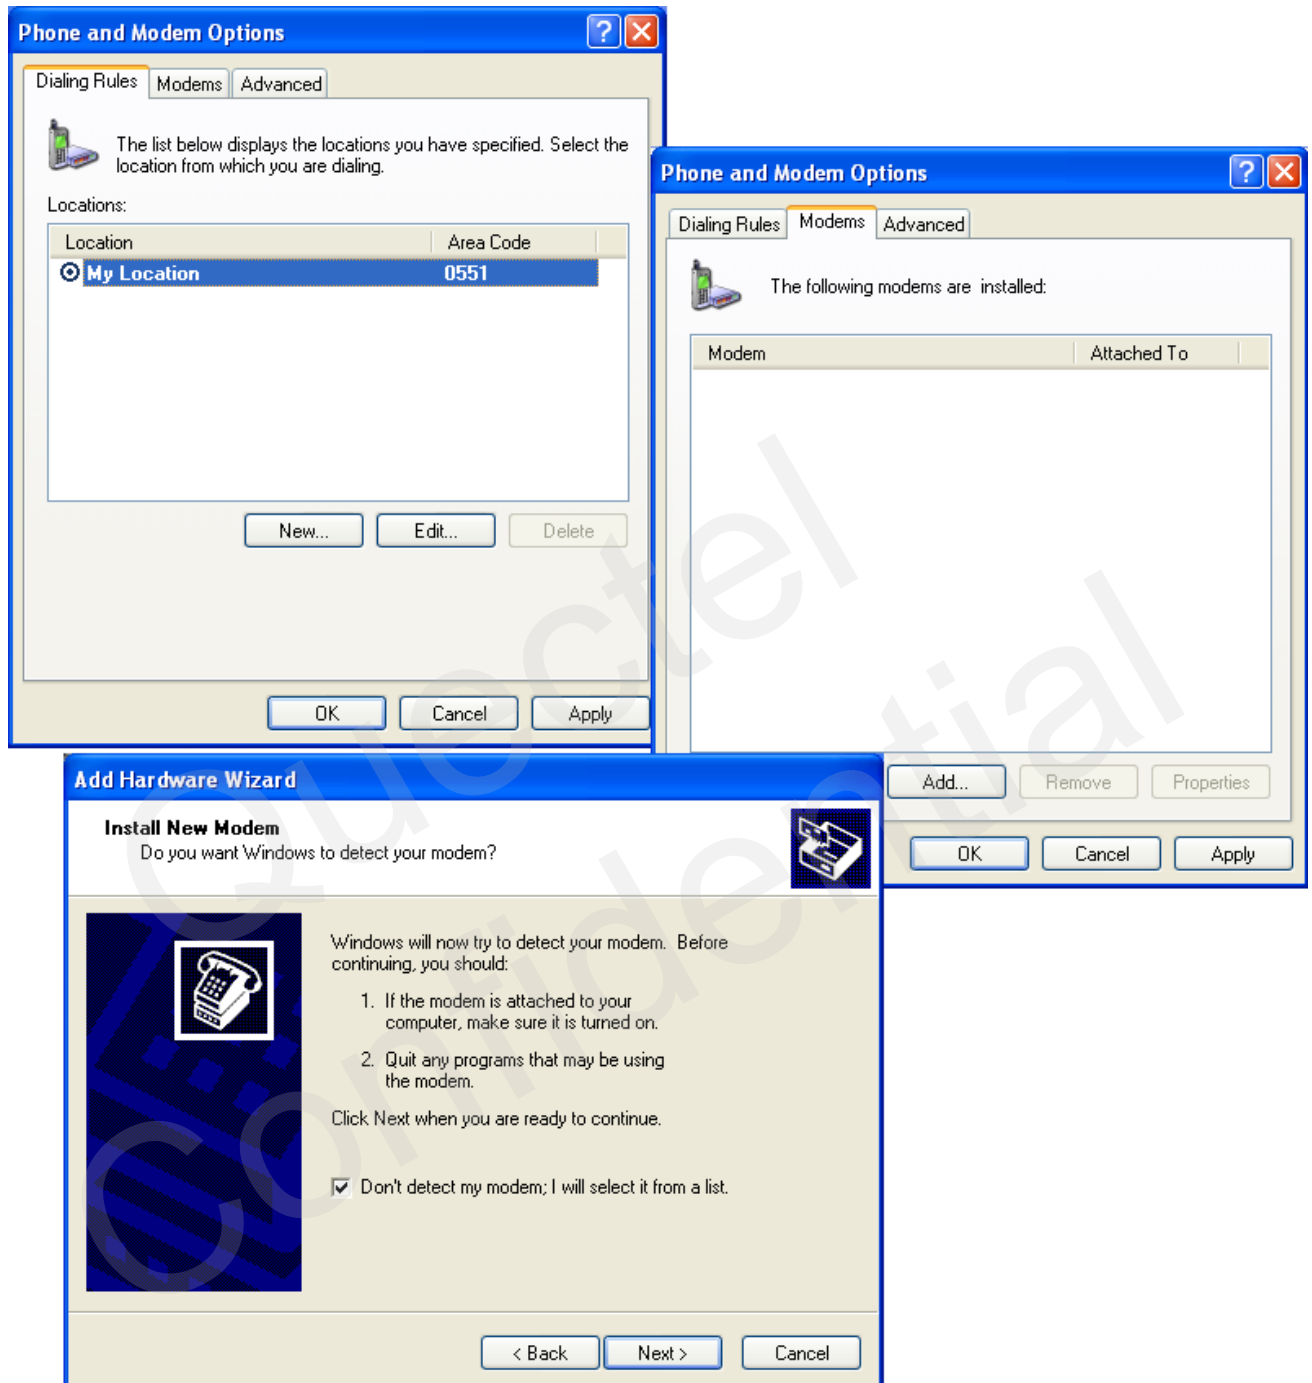

Figure 5: Add a New Modem
2. Double click **"Phone and Modem Options"**, and select **"Modems"**-> **"Add..."** to add a new modem. Refer to Figure 5.